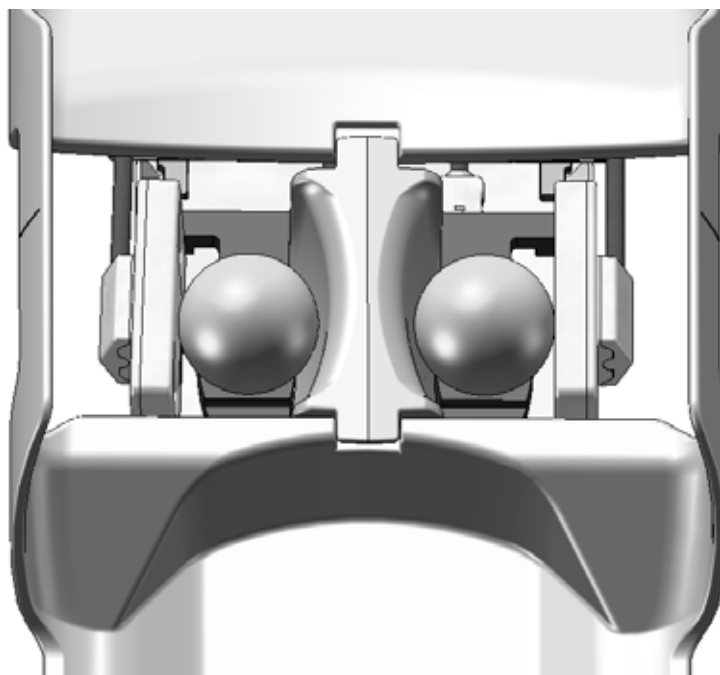

Figure 60: 8 Channel - Phantom Setup
4. Add spherical GE phantoms and move the lateral coils to their lowest position. Adjust lateral coils towards the phantom so that they lightly touch the phantoms as shown in Figure 60.